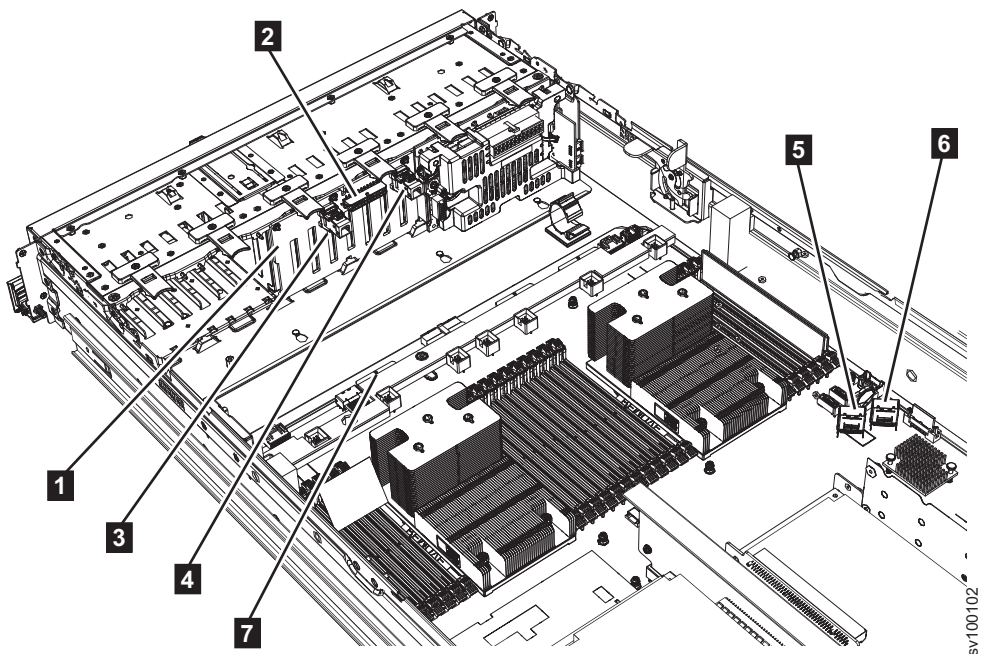

Figure 90. The 2145-SV1 SATA drive backplane and connectors
9. Disconnect all cables from the SATA drive backplane. Figure 90 shows the location of the SATA drive backplane and connectors.